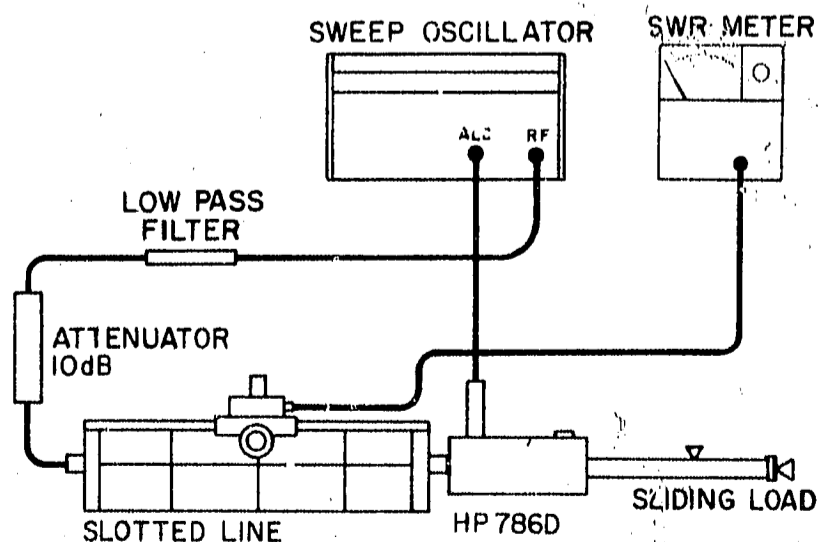

Figure 11. SWR Check
- Set up test equipment as shown in Figure 11.